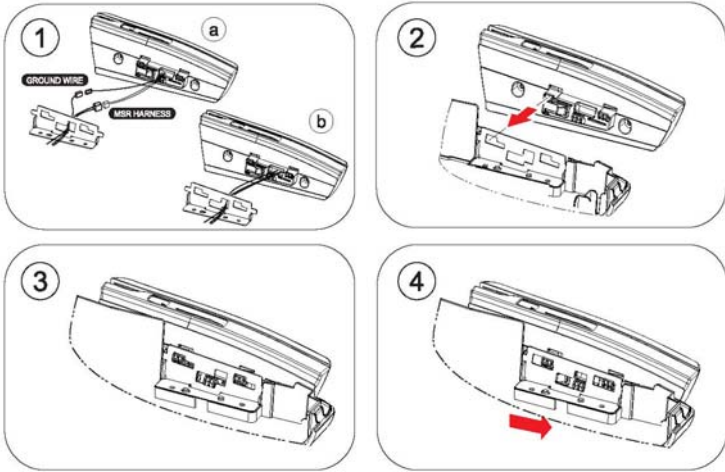

Figure 3-7 MSR Installation (2)
3. Connect Ground Wire & MSR Harness of MSR Assembly to the main set as shown in Figure 3-7-①-④.
4. Tidy up the connectors of Ground Wire & MSR Harness by inserting them into the MSR Assembly (Connectors should be hidden inside the MSR Assembly), Figure 3-7-①-⑥.
5. Insert MSR Assembly into the main set bracket holes as in Figure 3-7-②, Figure 3-5-③.
6. Tighten MSR Assembly by moving it to the direction shown in Figure 3-7-④.